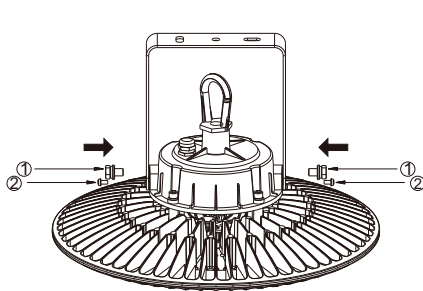

Fig. 1
1. Add the U-bracket to the driver and fix it with accessories 1 and 2 shown above. **(Figure 1)**.